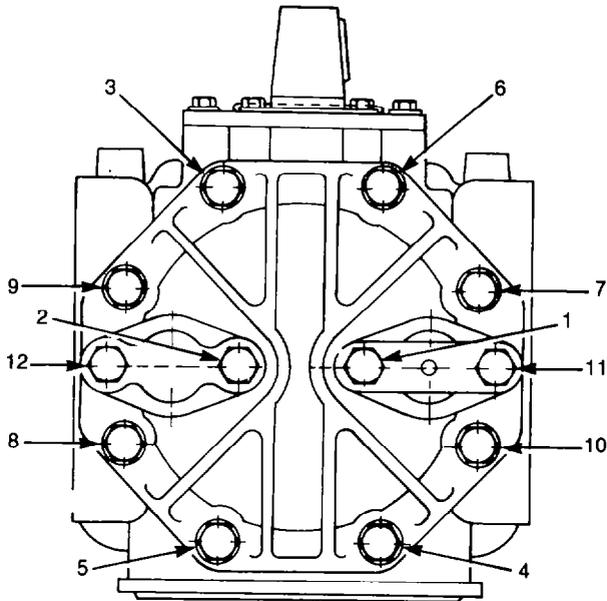

Figure 343 — Cylinder Head — Tightening Sequence
- i. Place a new head gasket and the cylinder head on the valve plate, then install the eight bolts and the four 12-point bolts. Torque the bolts to 20-31 Nm (15-23 lb.ft) in the sequence shown in Fig. 343.